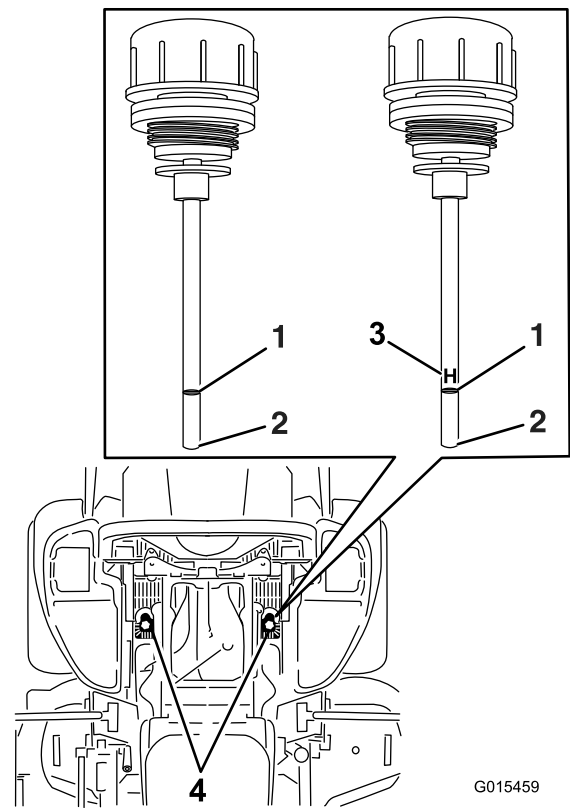

Figure 84
6. Clean the area around the dipsticks of hydraulic-system reservoirs (Figure 84).
7. Remove one dipstick from the hydraulic reservoir (Figure 84).
9. Remove the dipstick and look at the end (Figure 84).